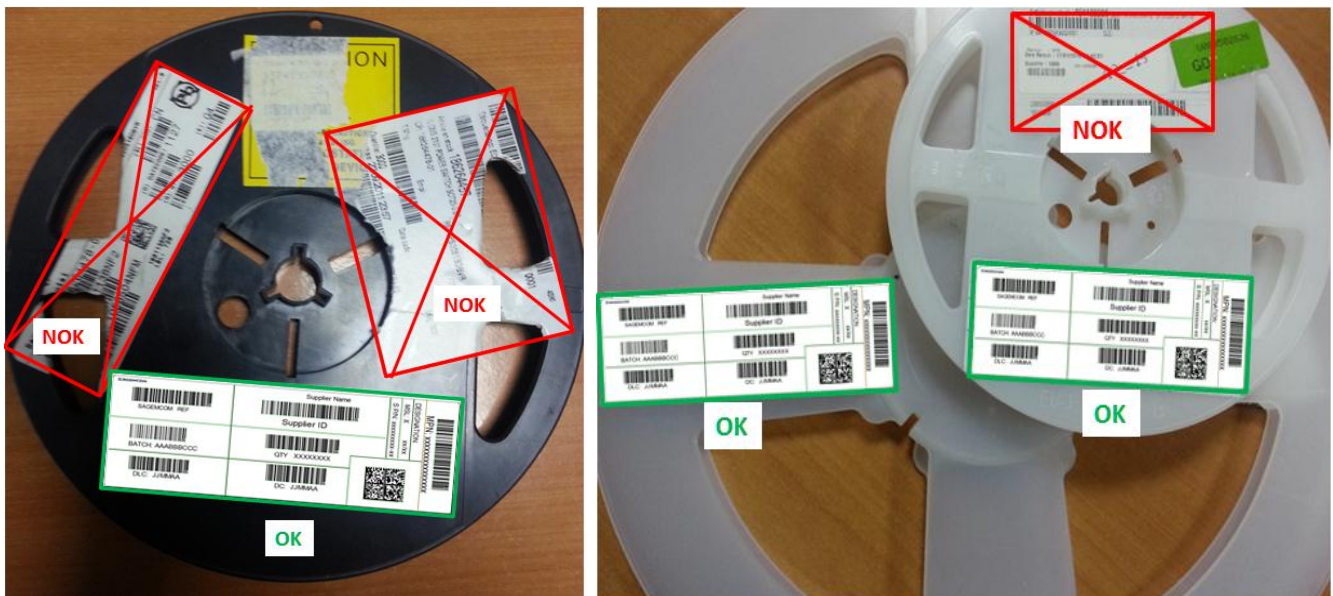

Figure 1 : Example of supplier Label pasting
- The labels on reels must be pasted on a full part without overflow. (example in Figure 1)